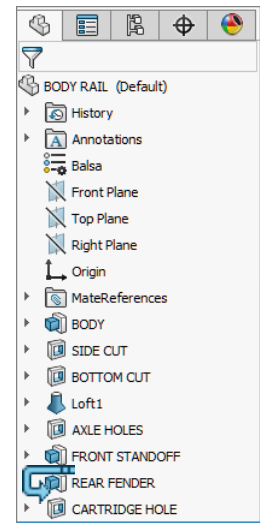

Fig. 99
Step 2. In the Feature Manager drag the **CARTRIDGE HOLE** below **REAR FENDER** feature, **Fig. 99** and **Fig. 100**.